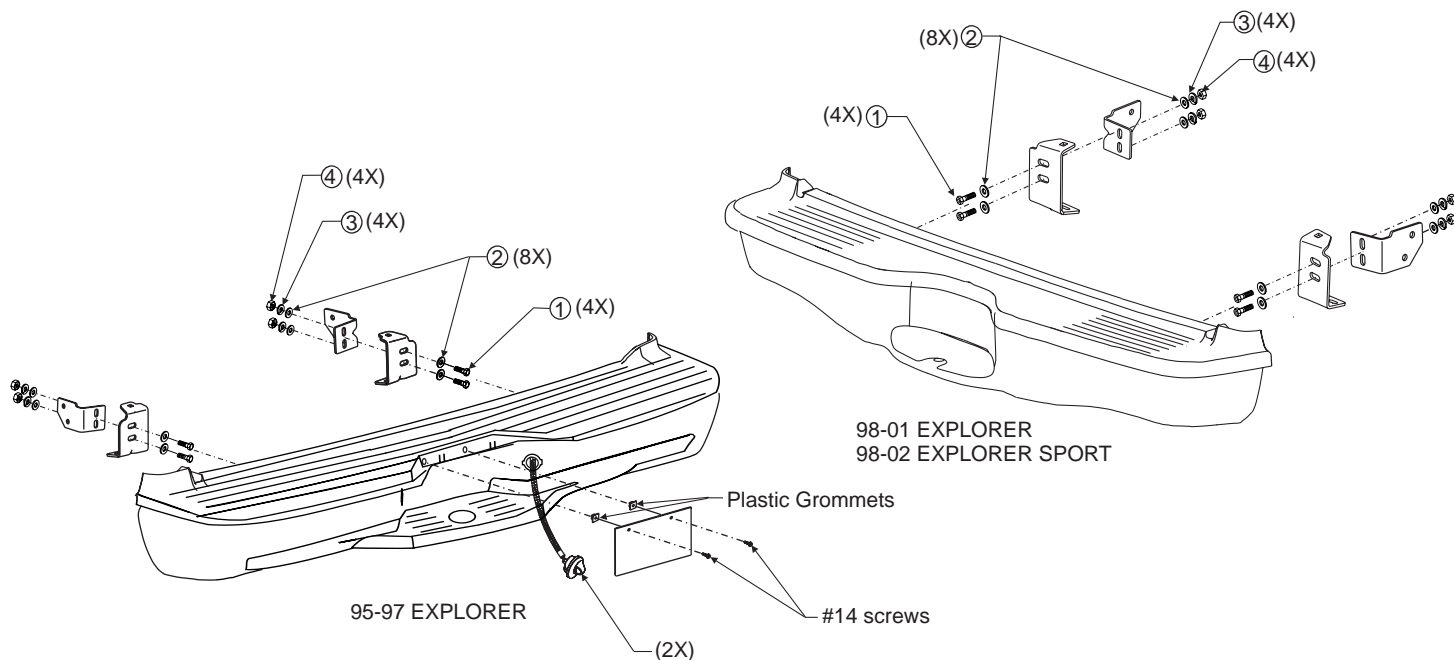
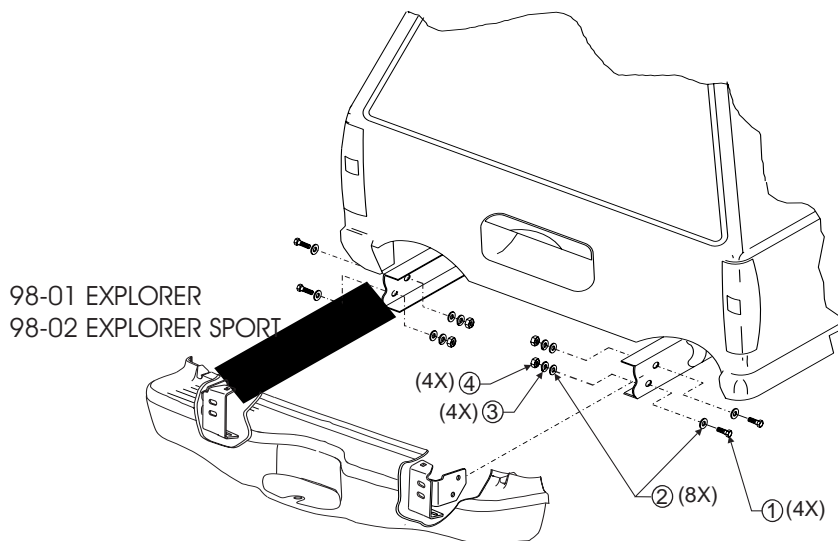

FIGURE 2
FIGURE 3
- STEP 2.** Pass (1) 1/2"-13 X 1.50" bolt, (2) 1/2" washers and (1) 1/2" split lock washer through each of the bracket mounting holes. Refer to Figure 2.
- STEP 3.** Hand tighten (1) 1/2"-13 hex nut onto each bolt. Use a 3/4" combination wrench to prevent each bolt from rotating while tightening each nut.
- STEP 5. Position bumper to the frame of the vehicle so that the mounting holes on the bumper's hitch align with the mounting holes on the frame of the vehicle. Refer to Figure 3.
- STEP 6. Pass 1/2"-13 X 1.50" bolt, (2) 1/2" flat washers and (1) 1/2" split lock washer through each mounting bracket hole and into the vehicle's frame. Refer to Figure 3.
- STEP 7. Hand tighten (1) 1/2"-13 hex nut onto each bolt. Use a 3/4" combination wrench to prevent each bolt from rotating while tightening each nut.
- STEP 9. Use #14 self-tapping screws and plastic grommets to install license plate. Refer to Figure 2. (For 95-97 Explorer only).